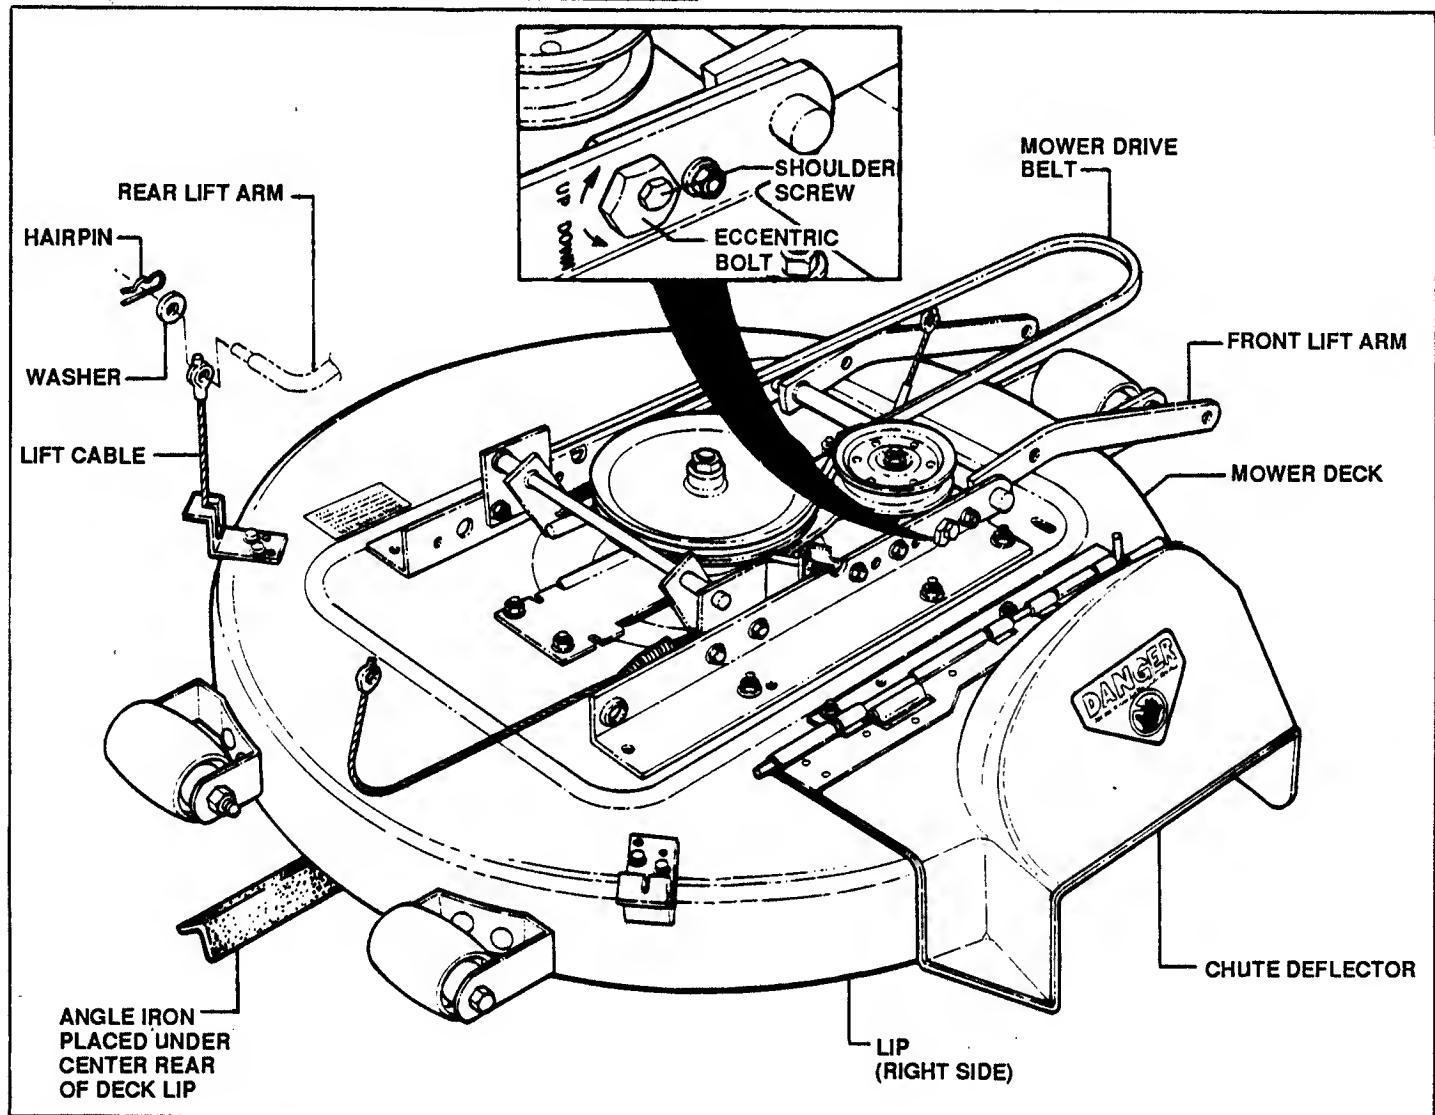

FIGURE 31
- (1) Place a piece of angle iron under lip at center rear of deck. See Figure 31.
- (2) Pull the pins and remove the CABLES from the REAR LIFT ARMS.
- (3) Measure distance between deck lip (at center of left side) and the floor surface. Compare to the distance from right side deck lip to floor.
(4) If required, adjust side-to-side level of mower deck by loosening SHOULDER SCREW on side of lift arm ECCENTRIC BOLT. See Figure 31.
(5) Turn the ECCENTRIC BOLT "UP" or "DOWN" to level deck within 1/8" side-to-side.
(6) When deck is level, tighten SHOULDER SCREW.
(7) Re-attach CHAINS to REAR LIFT ARMS.
(8) If either CHAIN is slack, adjust EYEBOLT until both CHAINS have equal tension. Recheck deck level. See Figure 31.